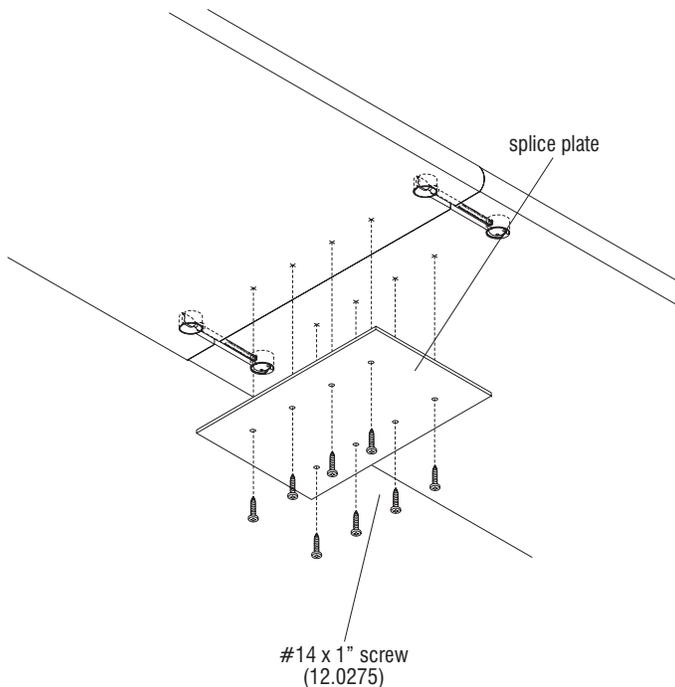

Figure 4
10. Install a 6" x 10" splice plate over the joint, at the underside of the worksurface for reinforcement. Use eight #14 x 1" screws in the pre-drilled holes and tighten to 100 in/lbs to secure (Figure 4). Continue securing all joints with adhesive, KV fasteners, and splice plates along the run of worksurfaces. Worksurfaces over 24" wide will have two splice plates and sixteen screws.